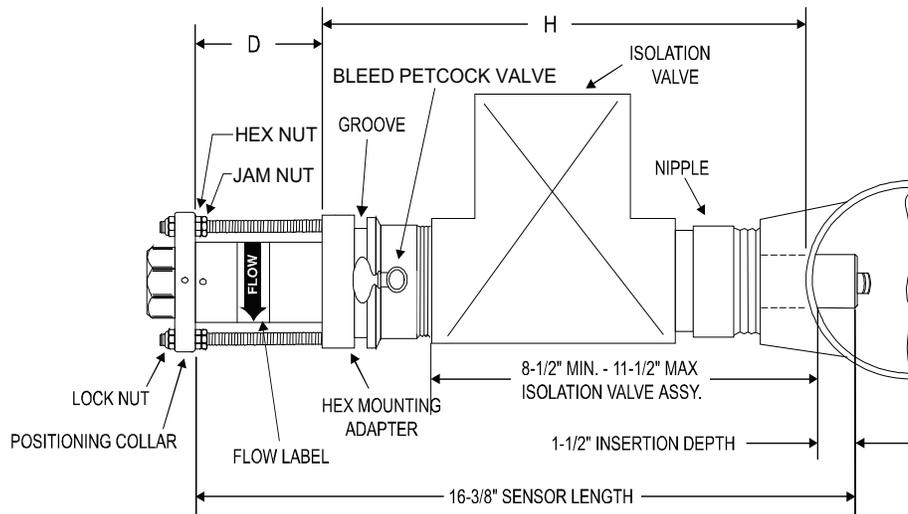
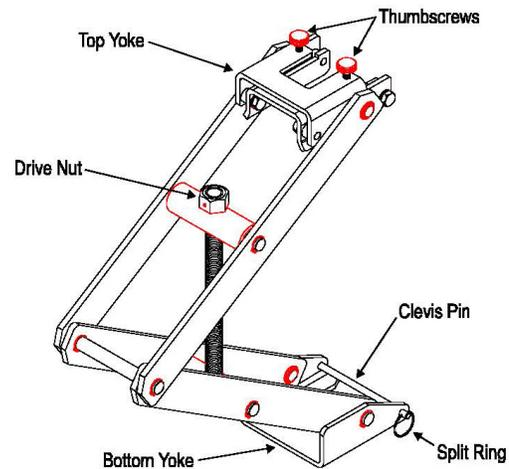

Figure 1: Pipeline installation
Figure 2: Model HTT (Hot Tap Tool)
Refer to *Figure 1* for the location and/or identification of the parts described in this document.
**NOTE:** Badger Meter recommends that you purchase a Hot Tap insertion/removal Tool (Model HTT) for future service, even if the sensor is installed in a drained system. The Model HTT allows you to remove the sensor sleeve assembly from the pipe line without draining the entire loop where the sensor is mounted. See *Figure 2*.
Refer to *Figure 2* for the identification and location of the HTT parts described in this document.
To install the hot tap flow sensor assembly into a pressurized pipeline with the Model HTT, follow these steps. Use *Figure 1* and *Figure 2* for reference.
Use *Figure 1* and *Figure 2* for reference.